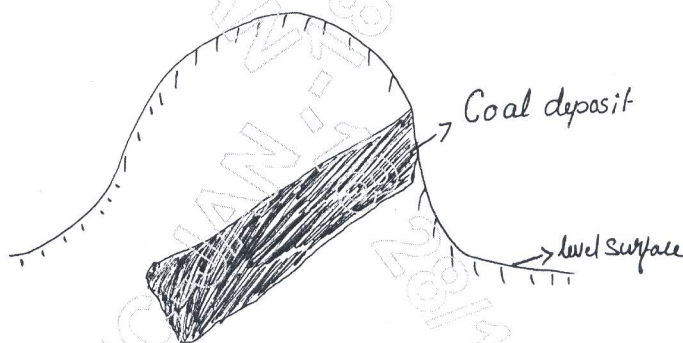

Fig Q1(c)
- c. The following Fig Q1(c) shown the position of the coal deposit, as a manager of mine planning department, which method do you prefer to access the coal deposit, give reason. Explain the method in detail along with its merits and demerits. (06 Marks)